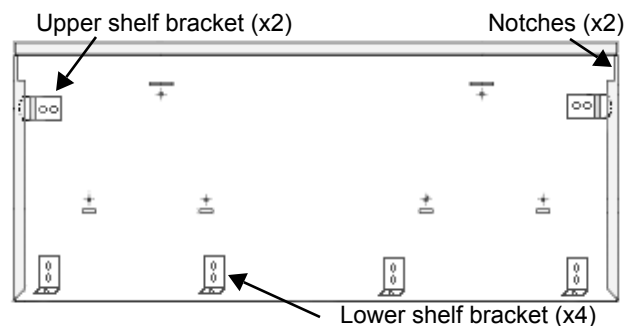

FIGURE 18: 48" BACK OF WALL PLATE
2. Mount the (2) top shelf brackets and the (3) lower shelf brackets at the locations outlined on the templates. Secure with the (10) 1" (25.4mm) screws provided.
4. Insert the (3) U-Nuts onto the (3) lower shelf brackets.
5. Install the wall plate by setting the corner notches (back of wall plate) atop the (2) top shelf brackets. Slide the shelf upwards until the bottom engages with the (3) lower brackets (*Figure 18*).